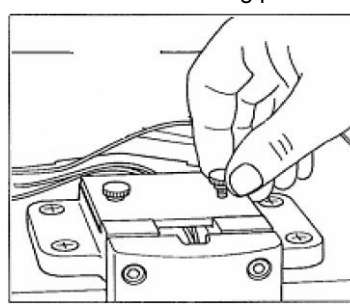

Fig. 12: Fixing Headrest with wire retaining plate and thumbscrews
- 6) Cover with wire retaining plate and tighten with 2 thumbscrews (Fig. 12).